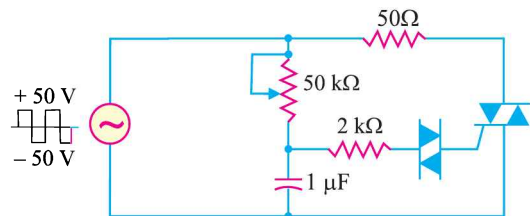

Fig. 21.35
7. If the triac of Fig. 21.35 has 1 V across it when it is conducting, what is the maximum current through the 50Ω ?